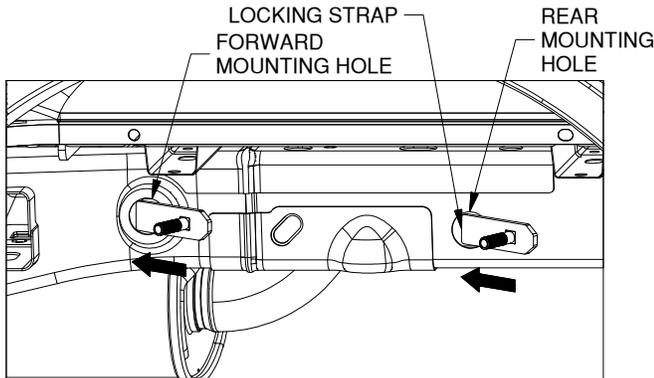
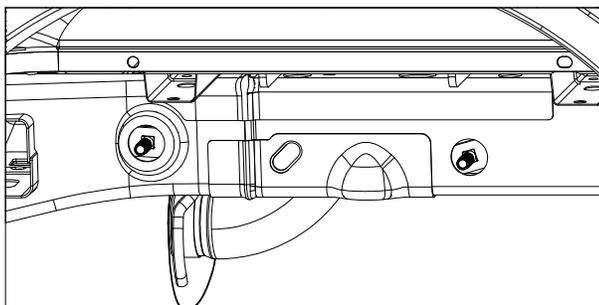

Figure C1: View of driver side wheel well.
Figure C2: View of driver side wheel well.
- 1. Install carriage bolts.** Each side plate is attached to the frame with the help of a locking strap. To begin, locate the forward and rear mounting holes in the frame shown in Figure C1. Attach the carriage bolts to the locking straps by passing the bolts through the straps. Insert the locking straps through the holes in the frame until they are completely inside the frame and only the carriage bolt is passing through the holes, see Figure C2.